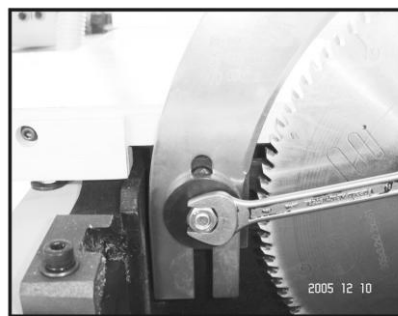

Fig. 33
8. Loosen the riving knife center bolt, slide the riving knife over the bolt (fig.33) and slightly tighten.